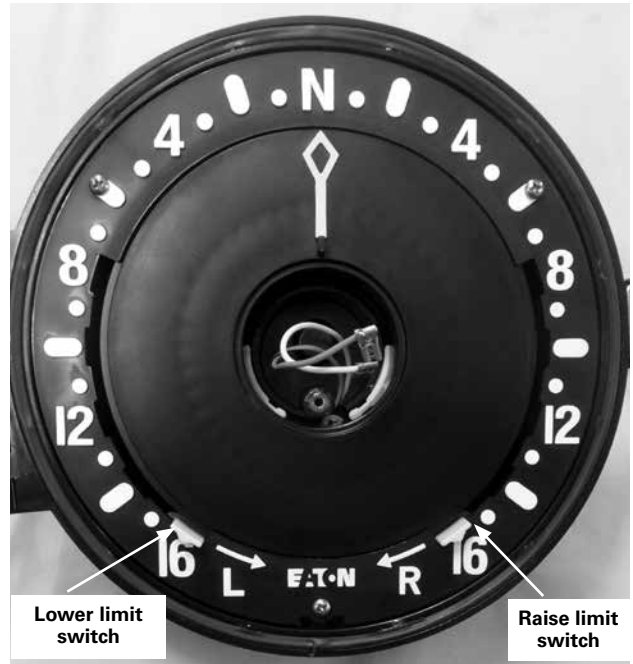

Figure 14. Limit switch positions
- Set the lower limit switch to 16L and the raise limit switch 16R; this will make it easier to insert the DHR solenoid module. See Figure 14.